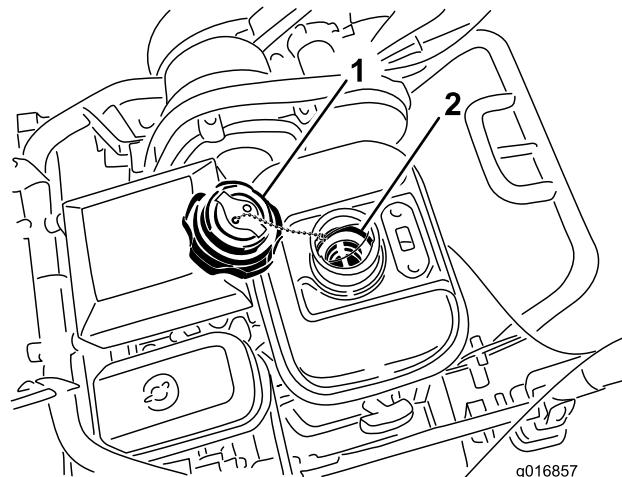

Figure 38
3. Unscrew and remove the fuel tank cap from the fuel tank (Figure 38).